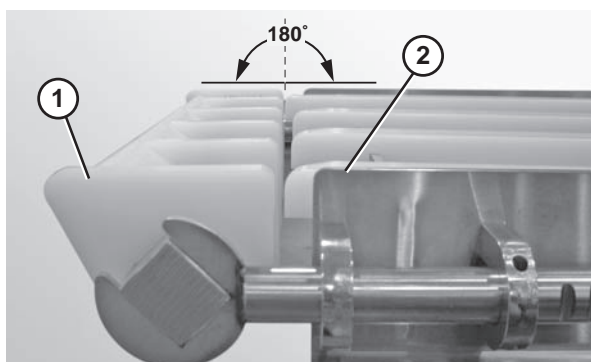

Figure 24
4. Ensure that the nose bar pucks (Figure 24, item 1) are in line with the conveyor frame (Figure 24, item 2).